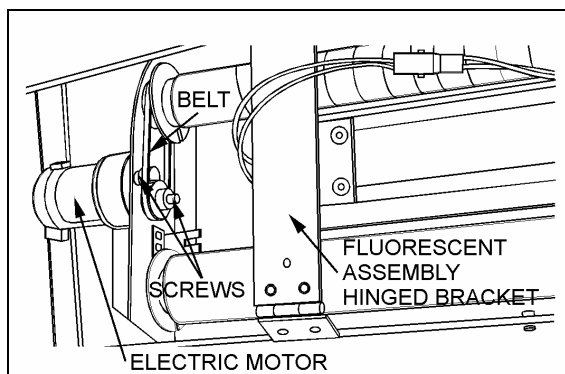

FIGURE 20: DESTINATION SIGN-ELECTRIC MOTOR 23034
3. Remove both screws retaining motor to destination sign frame (Fig. 20).
2. Insert projection at end of "BOBRICK" key into rectangular hole in cover (Fig. 20). Push straight in. While holding "BOBRICK" key in, turn cover counterclockwise about 1/8 turn.